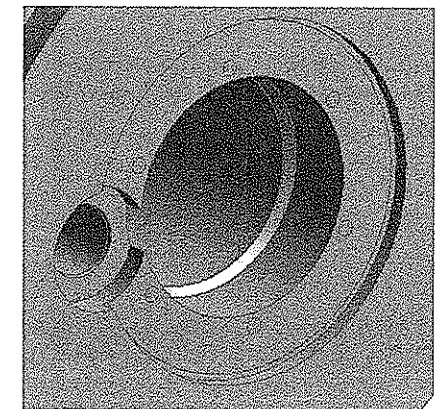

Figure 7-67 Fills created
13. After the holes are defined, choose the **Generate** tool; the fills are created in holes, as shown in Figure 7-67.